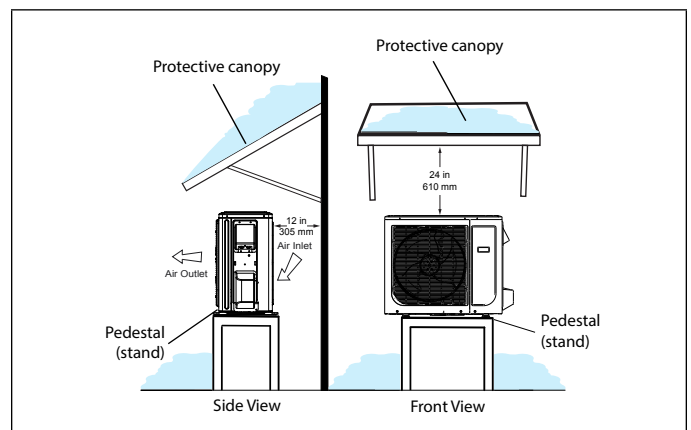

Figure 15. Outdoor Unit on Pedestal (Stand) and Protective Canopy
- If the outdoor unit is subjected to prolong exposure to direct sunlight with temperatures over 100°F (38°C) a canopy is recommended as illustrated in "Figure 15. Outdoor Unit on Pedestal (Stand) and Protective Canopy"
- Place unit away from overhanging roof lines which would allow water or ice to drop on, or in front of, coil or into unit. Construct a canopy as illustrated in "Figure 15. Outdoor Unit on Pedestal (Stand) and Protective Canopy"